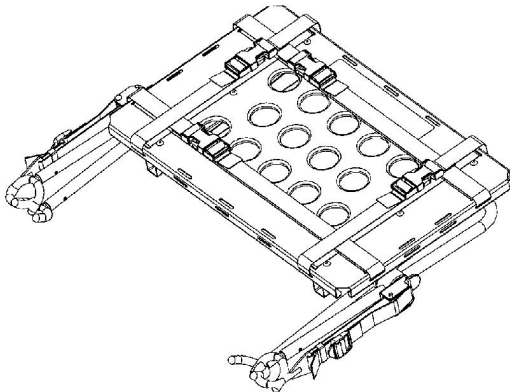

Figure 54
1. Place the defibrillator platform in the stored position as shown in Figure 54.